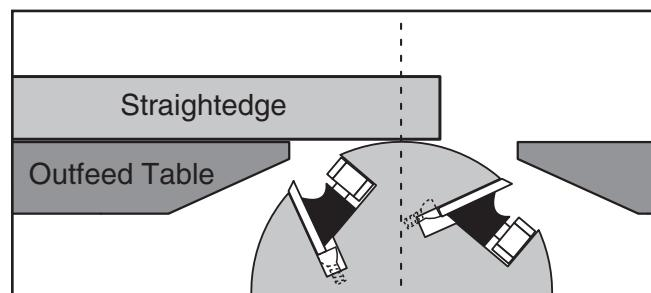

Figure 45. Adjusting outfeed table even with cutterhead body (knife-style cutterhead shown).
4. Rotate motor pulley so that you can access cutterhead body with straightedge between the knives/inserts, as shown in **Figure 45**.